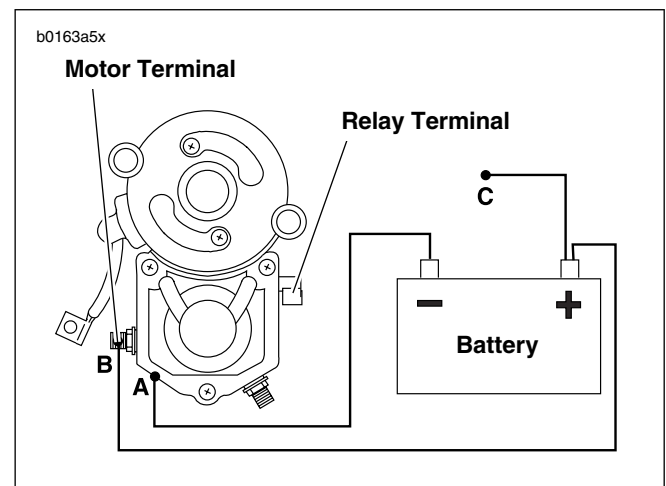

Figure 5-14. Return Test
1. See Figure 5-14. With test leads still connected in the manner specified at the end of the previous SOLENOID HOLD-IN TEST, **disconnect solenoid relay terminal/positive battery post test lead (C) at either end.**